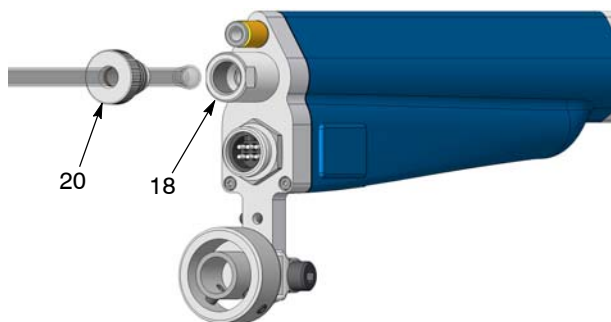

Figure 22 Disconnecting Powder Tubing
4. See Figure 22. Unscrew the lock knob (20) and pull the powder tubing out of the lock nut (18).
12. See Figure 22. Thread the lock knob (20) into the lock nut (18) and tighten snugly.